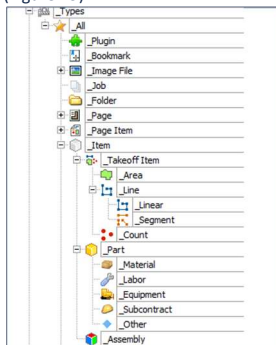

Figure 19
19. The **_Part Item** is the base class of **_Material**, **_Labor**, **_Equipment**, **_Subcontract**, and **_Other**. All of these inherit from **_Part**. Now double-click on the **_Assembly Item** (Figure 19).